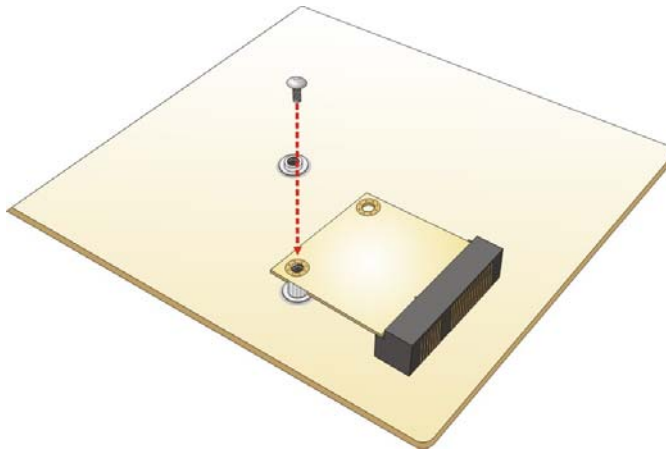

Figure 4-10: Securing the Half-size mSATA Module
Step 6: Secure the half-size mSATA module. Secure the half-size mSATA module with the retention screw previously removed (Figure 4-10).